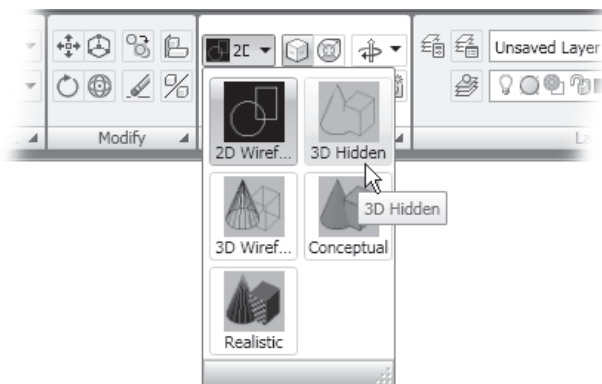

Figure 6.19
1. First make sure Visual Style is set to something other than 2D Wireframe by selecting 3D Wireframe, 3D Hidden, Conceptual, or Realistic from the Visual Styles flyout in the View panel (Figure 6.19).